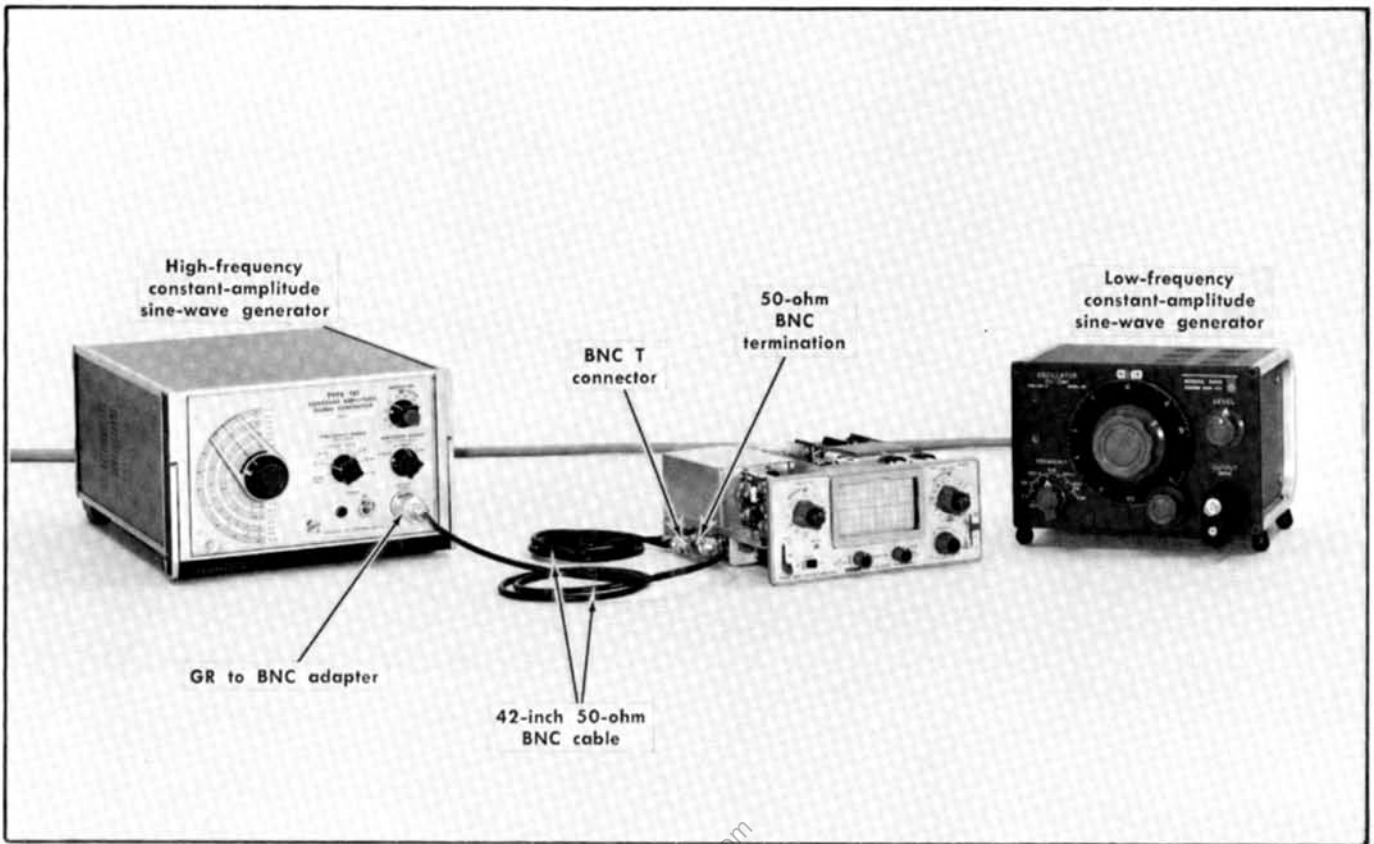

Fig. 6-21. Initial test equipment setup for steps 46 through 54.
- a. Test equipment setup is shown in Fig. 6-21.